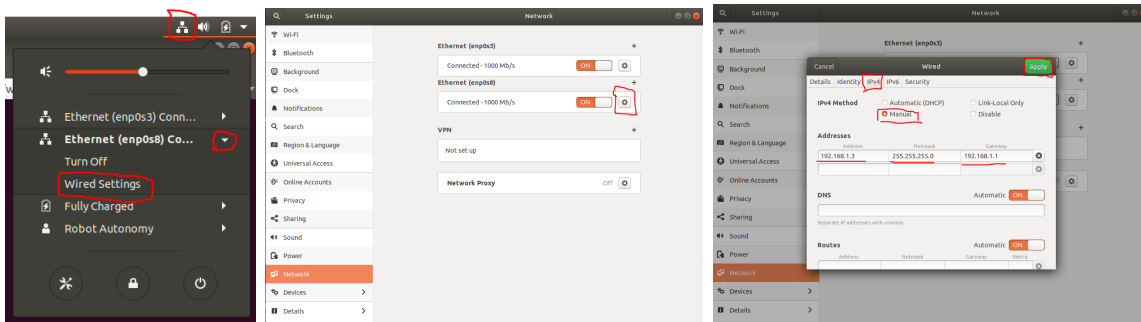

Figure 3: Steps (from left to right) of Setting the IP of the Local Machine in the Ethernet Connection to the Control PC
4. Set the IP of your newly connected Ethernet Interface to have a static IPv4 address of 192.168.1.3. See Figure 3 for details.